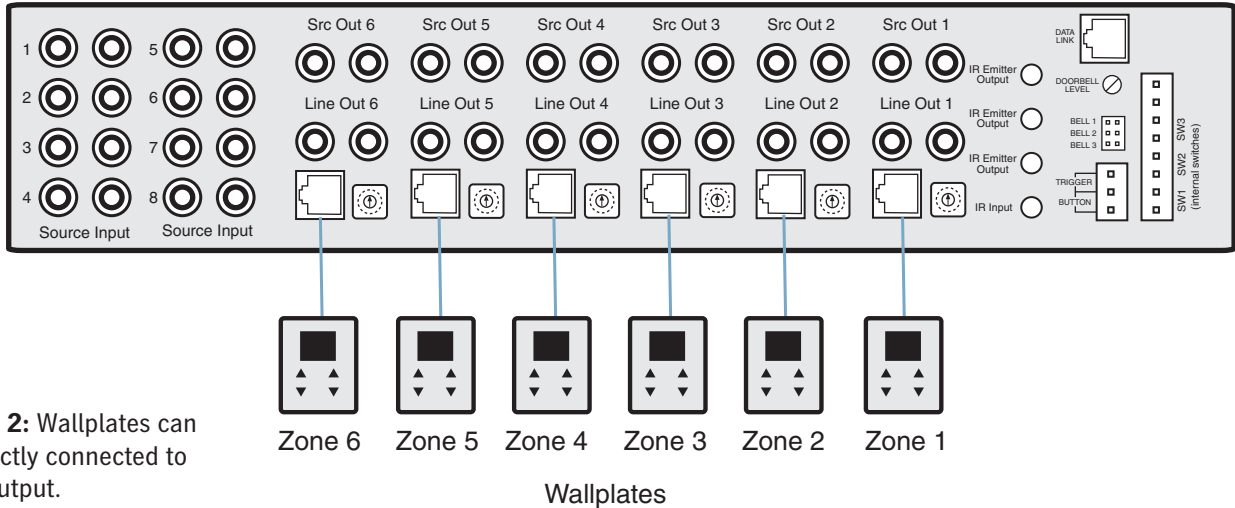
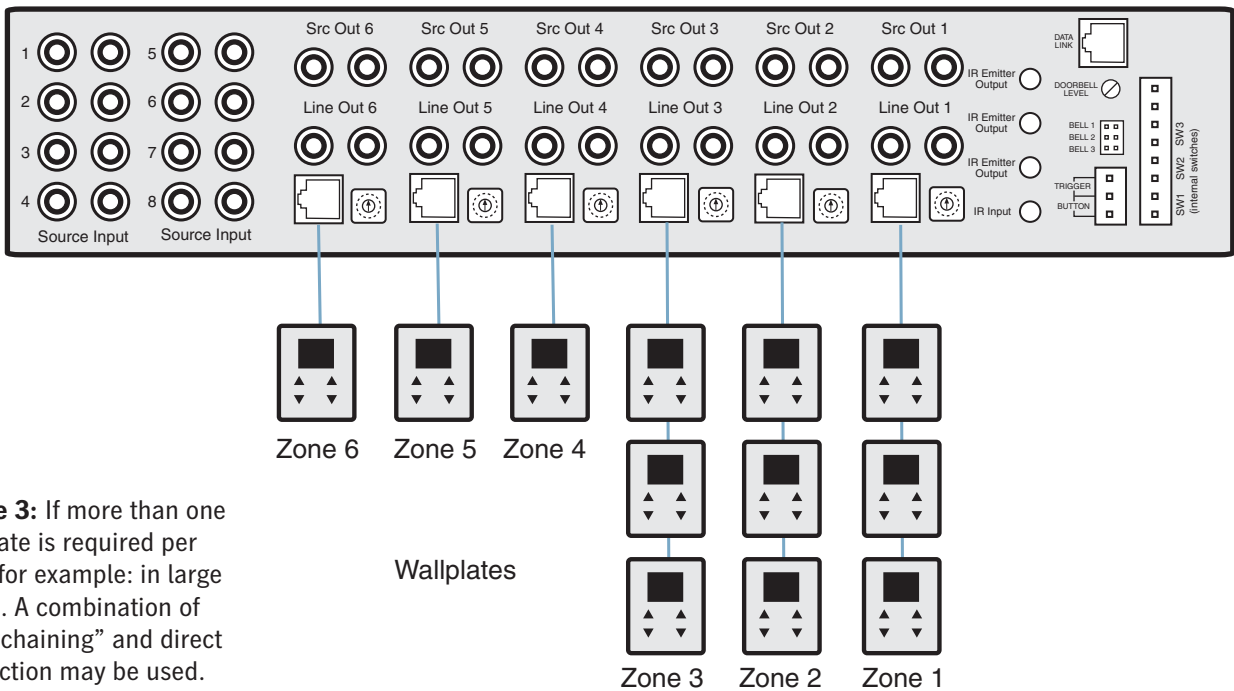

Figure 2: Wallplates can be directly connected to each output.
Figure 3: If more than one wallplate is required per zone, for example: in large rooms. A combination of “daisy chaining” and direct connection may be used.
1. Connect the wallplates using figures 2 & 3 as a guide. Figure 3 must be used if more than 1 wallplate is used per zone.
3. Connect input sources to RCA inputs (see fig 2 to 3). This can be any line level RCA audio source ie: CD, DVD, Set top box, Tuner etc.